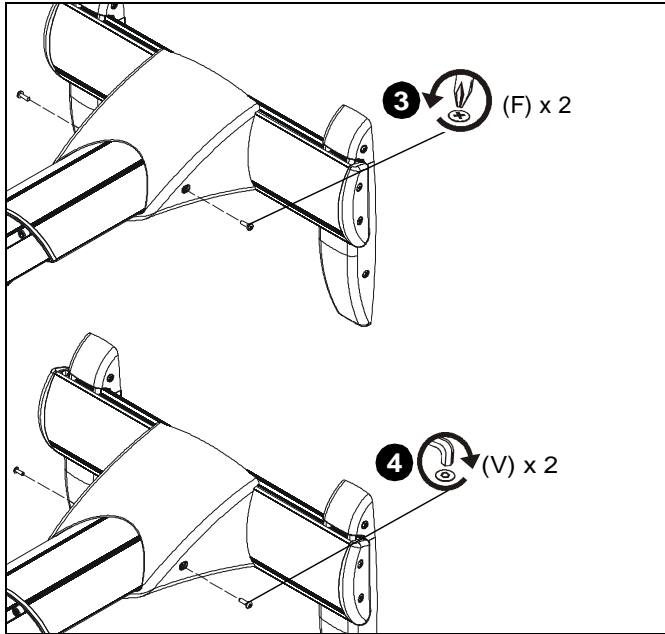

Figure 43
3. Remove two #8-32 x 1/2" Phillips pan machine screws (F) holding mount cover on projector arm. (See Figure 43)
4. Install two #8-32 x 1/2" button head security screws (V) into holes on mount cover. (See Figure 43)